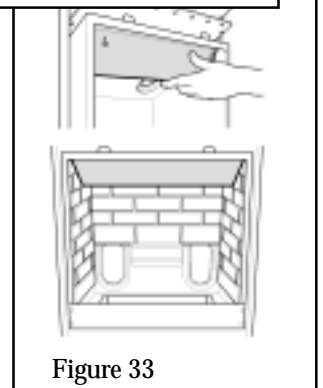

Figure 33
3. Remove two screws from under the top front of the firebox. Using these screws, fit the port cover. See figure 33.